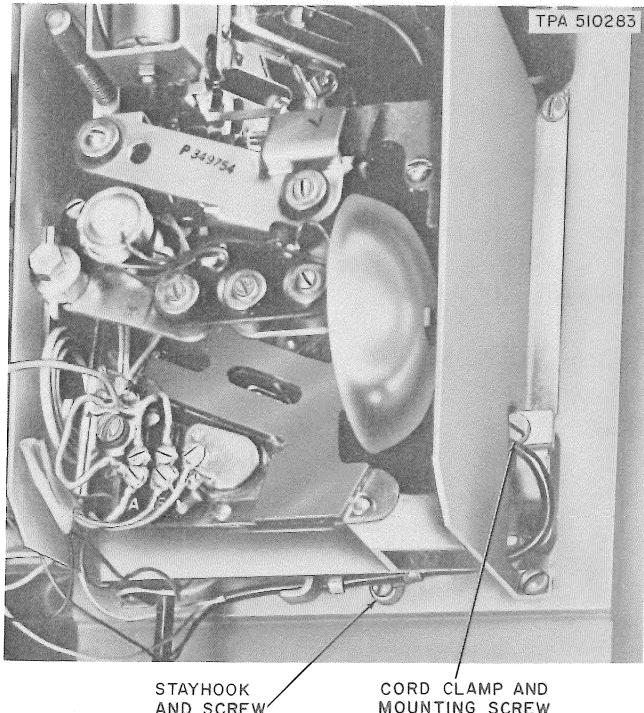

Fig. 35—Location of Armored Cord Mounting Hardware in 235- and 1235-Type Coin Collector
- 6.52 Refer to Fig. 35 for routing and securing handset cord in 235- and 1235-tye coin collectors.